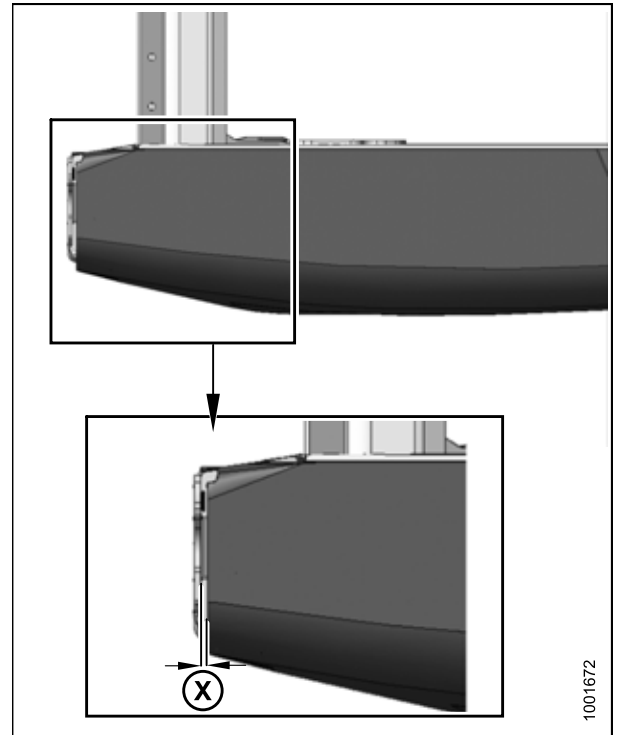

Figure 3.16: Left Endshield
3. Loosen nut (A) on pin (B) from inside the endsheet using a 19 mm (3/4 in.) socket.
4. Close the endshield and adjust its position to achieve the gap (X) (shown in Figure 3.16, page 37) between the front end of the endshield and the header frame.
5. Open the endshield and tighten nut (A).
6. Loosen the bolts on catch (C), and adjust the catch as required to reposition the endshield. Ensure there is a snug fit between the top of the endshield and the header frame and that the endshield is fully engaged on pin (B).
7. Tighten the bolts on catch (C).